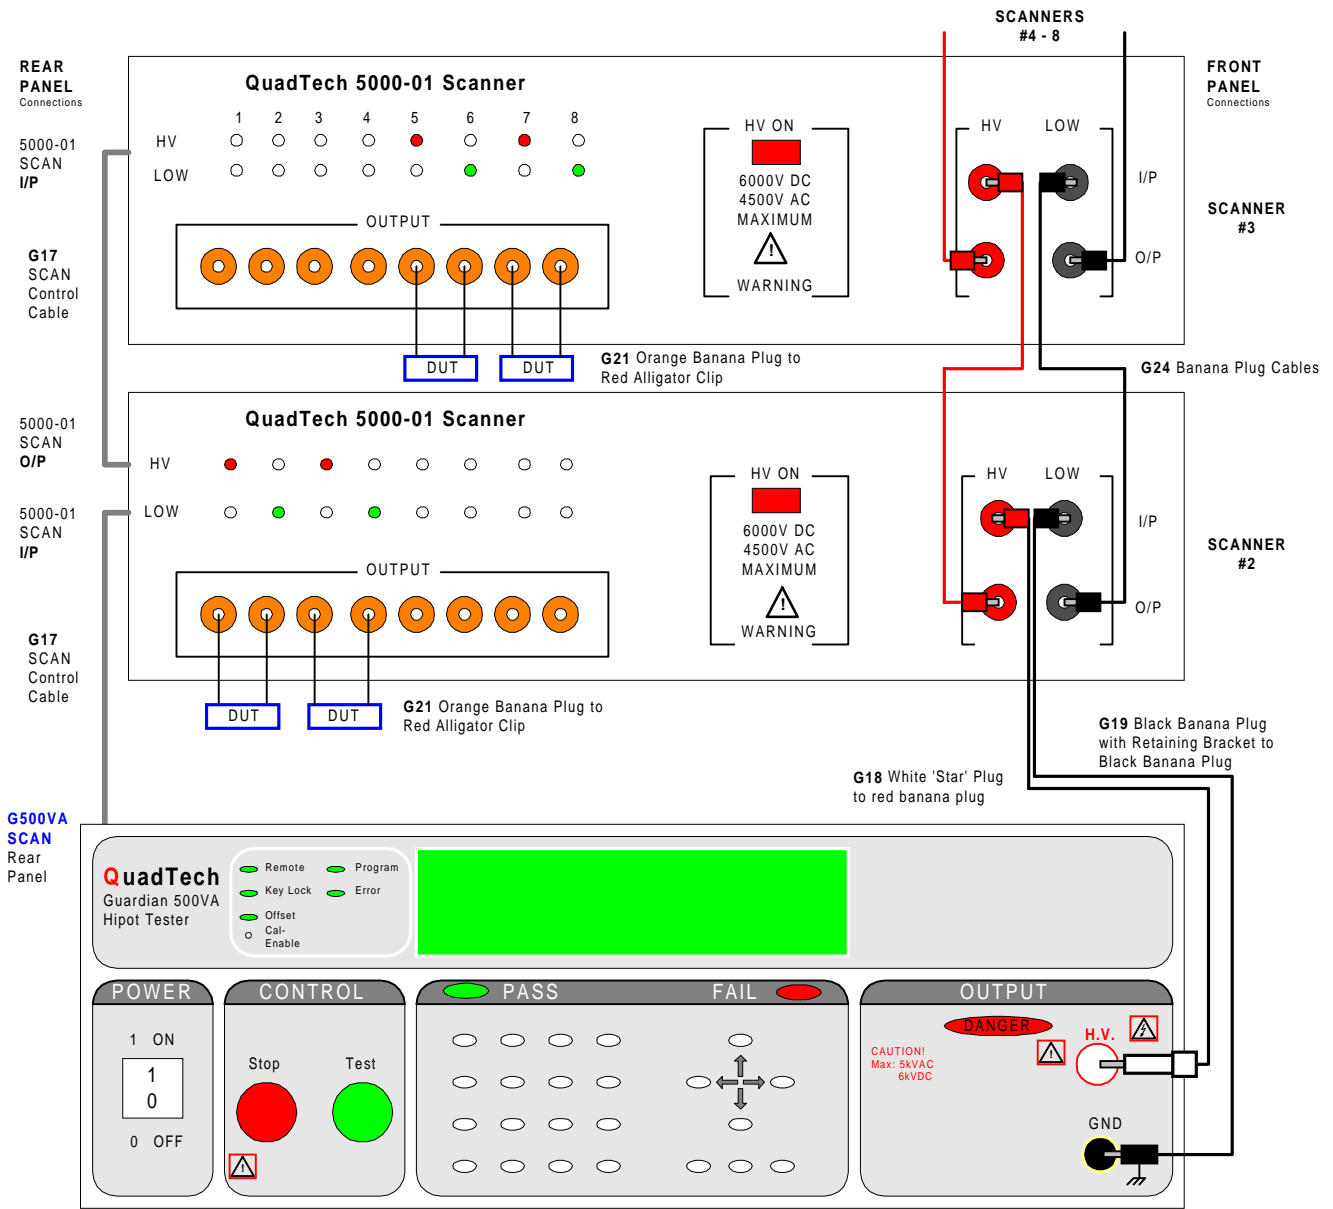

Figure 3-8: Guardian 500VA Connection to 5000-01 Multiple External Scanners (AC/DC Hipot & Insulation Resistance Tests)
Before connecting the scanner to the Guardian 500VA or connecting devices for test **Press the [STOP] key** and make sure the red DANGER light is **OFF**. Figure 3-8 illustrates the connection of the G500VA to the 5000-01 Scanner(s) for hipot or insulation resistance (IR) tests.
When the scanner is programmed for multiple connections in the same test step the devices under test are connected in parallel (as shown in Figure 3.8). To test several devices independent from each other, requires an individual test step (1 to 15) for each. Refer to paragraphs 2.3 – 2.6.